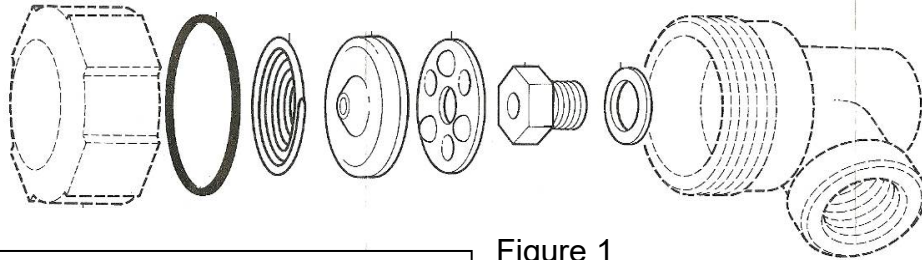

Figure 1
*. The maintenance on the trap it must be isolated from both the supply line and return line and any pressure allowed to safely normalize to atmosphere. The trap should then be allowed to cool. When reassembling, ensure that all joint faces are clean. Please see figure 1.